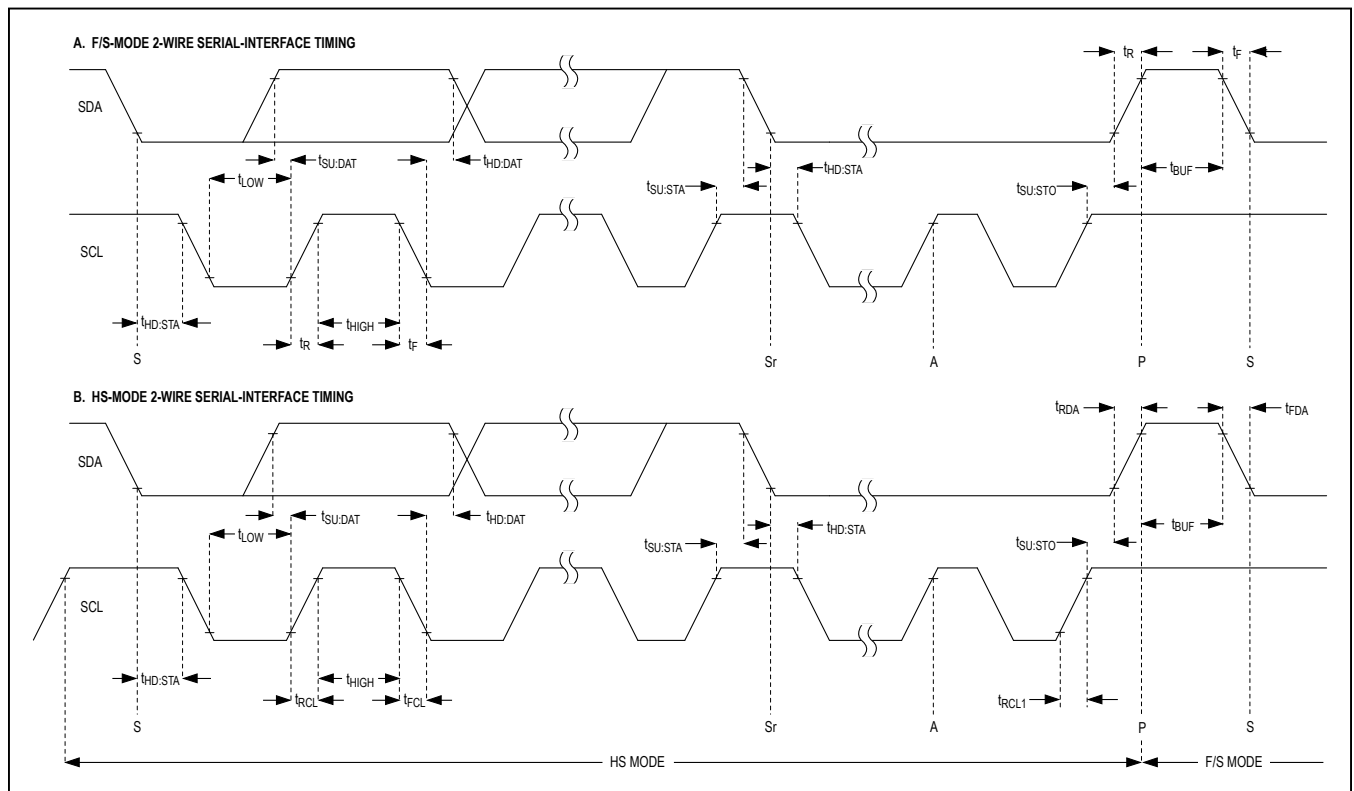

Figure 1. 2-Wire Serial-Interface Timing
**Timing Characteristics (Figure 1)**
## Timing Characteristics (Figure 1) (continued)
**Note 11:** A master device must provide a data hold time for SDA (referred to VIL of SCL) to bridge the undefined region of SCL's falling edge (see Figure 1).
up to 94.4ksps. Figure 1 shows the bus timing for the MAX11606–MAX11611’s 2-wire interface.